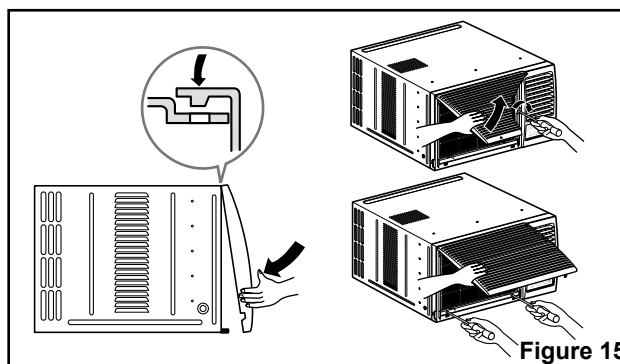

Figure 15
10. Attach the front grille to the cabinet by inserting the tabs on the grille into the tabs on the front of the cabinet. Push the grille in until it snaps into place.(See Fig.15)
11. Lift the inlet grille and secure it with a screw (Type A) through the front grille.(See Fig. 15)